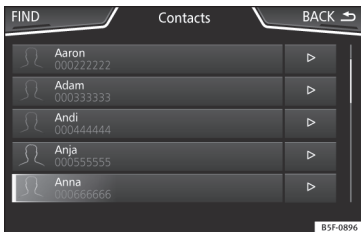

Fig. 189 Contacts Menu.
- Press the **Search** function button >>> Fig. 189 to open the search window.
- Press the function button **>>>** **Fig. 189** located next to the entry on the contacts list.